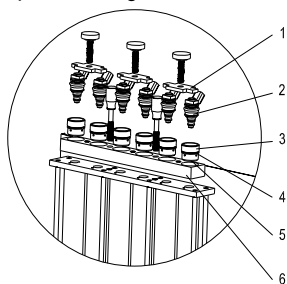

Fig. 06
- 1) Choose proper couplers for side-supply injectors (3) and proper O-rings, and mount them together. (Remember to apply a little lubricating grease.)
- 3) Mount the cross plate (1) and tighten it with bolts.
- 4) Mount the fuel distributor and injectors onto the fuel distributor supporter, and tighten them with two riffle screws (black). See Fig. 06.